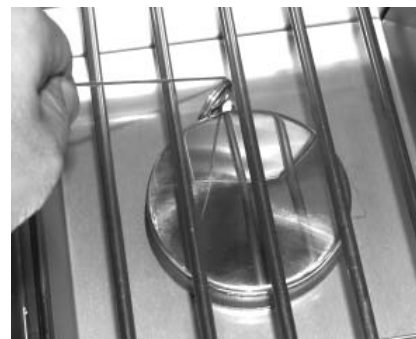

Fig. 19-2 - Manual lighting
2. Insert either a burning long-barrel butane lighter, a burning long-stem match, or a burning match held by a wire extension holder through the cooking grids to the burner (Fig. 19-2). Hold the flame against the edge of the burner.
4. If the burner does not light within five (5) seconds of turning the control knob, **immediately depress the knob and turn the valve to OFF**. **WAIT FIVE (5) MINUTES** before repeating steps 2 through 4 of the MANUAL LIGHTING instructions.